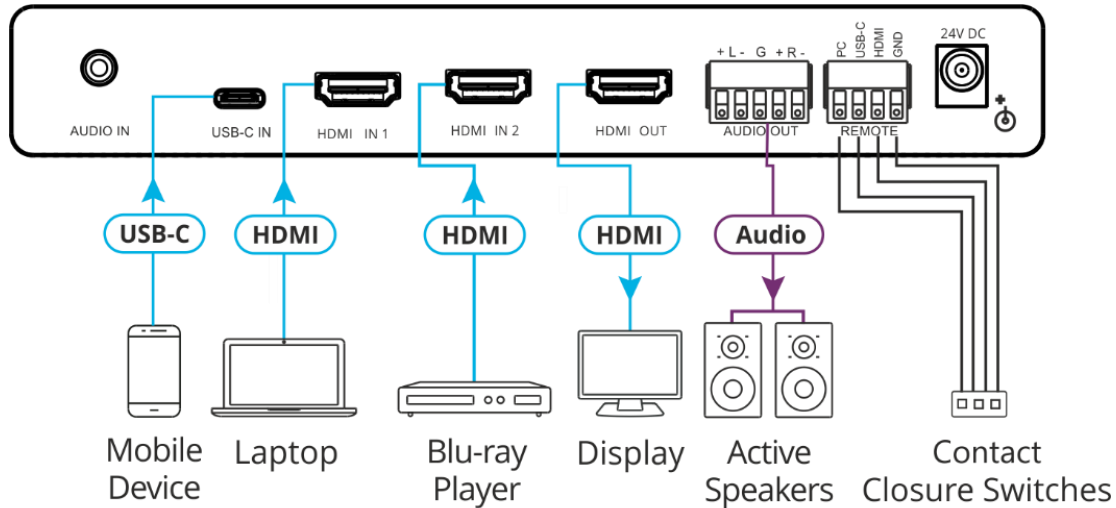

Figure 3: Connecting to the VP-451 Rear Panel
To connect the VP-451 as illustrated in the example in Figure 3:
1. Connect a USB source (for example, a mobile device) to the USB-C IN connector (12).
2. Connect an HDMI source (for example, a laptop) to the HDMI IN 1 connector (13).
3. Connect an HDMI source (for example, a Blu-ray player) to the HDMI IN 2 connector (14).
4. Connect the HDMI OUT connector (15) to an HDMI acceptor (for example, a display).
5. Connect the AUDIO OUT 5-pin terminal block connector (16) to a balanced stereo audio acceptor (for example, active speakers).
6. Connect the REMOTE 4-pin terminal block connector (17) to contact closure switches (for example, Kramer RC-21TB).
7. Connect the power adapter to **VP-451** and to the mains electricity (not shown in Figure 3).